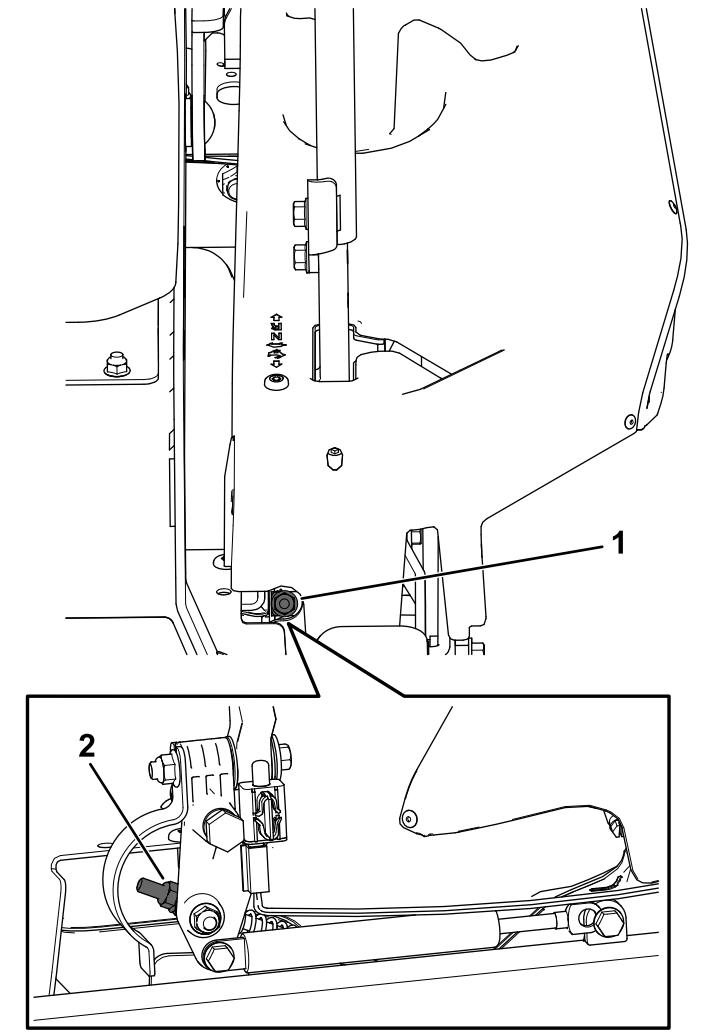

Figure 70
10. Adjust the pump-control-rod lengths by rotating the nut in the appropriate direction until the wheels slightly creep in reverse (Figure 70).